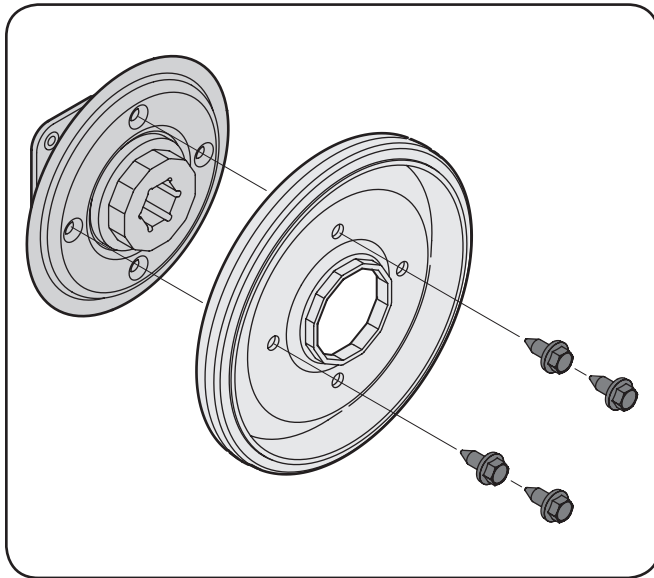

Figure 7-11
7. Remove four screws securing the friction wheel to the hub assembly (refer to Figure 7-11). Discard old friction wheel.
8. Reassemble the new friction wheel onto the hub assembly, tightening the four screws in rotation and with equal force. It is important to assemble the friction wheel symmetrically for proper functioning. Refer to Figure 7-11.